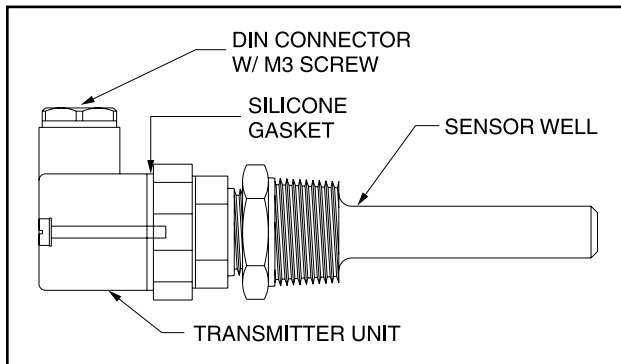

Figure 36 - Temperature Transmitter
2. Remove DIN connector plug from transmitter. See Figure 36.